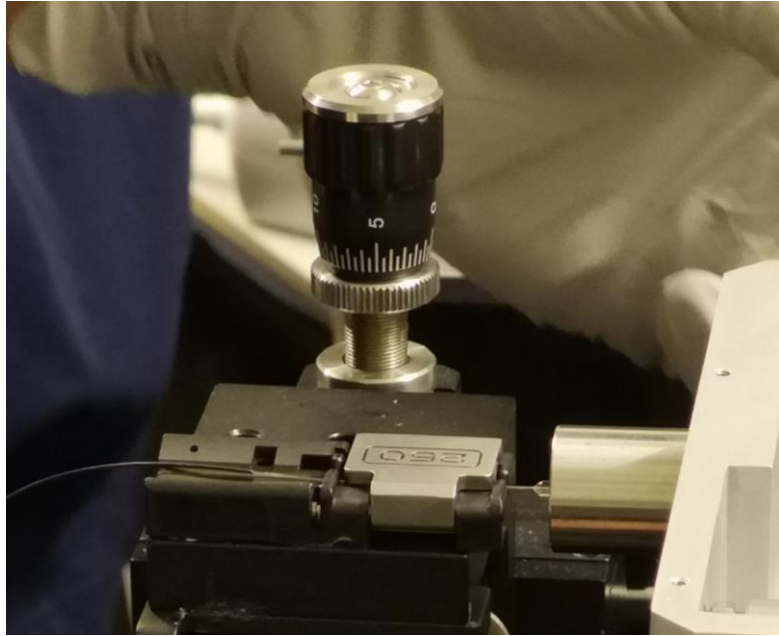

Figure 8: Fixation of glass flange into the clamp and insertion of the flange into the collimator holder.
Step23. Place another fiber coupling stage in front of the coupling holder (item 11) which is attached to the coupling box (Fig.S8D in *Zong, et al.,2022* & Fig.8 in this document).